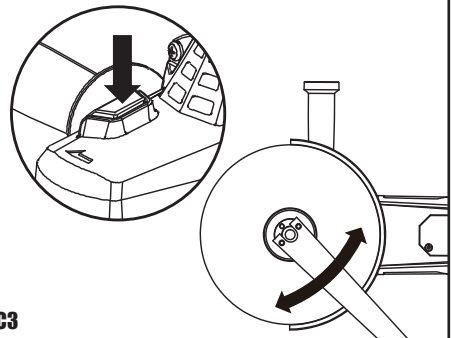

Fig. C3
Press in the spindle lock button (2) and rotate the spindle by hand until it is locked. Keeping the lock button pressed in, tighten the outer flange (12) with the spanner (13) provided (See Fig. C3).